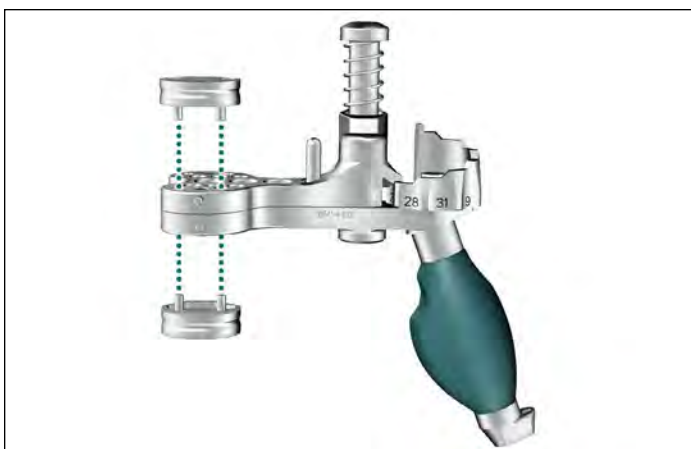

Figure 23B
- Put the knee into extension (0°). If distal femoral and/or tibial augmentation has been prepared for, assemble the appropriate thickness of Adjustable Spacer Block Augments to the appropriate sides of the upper and/or lower paddle of the Adjustable Spacer Block. (Figure 23B)